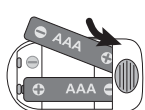

Fig. 3b
2. Put the two AAA batteries into battery cassette in correct polarities (fig. 3b).